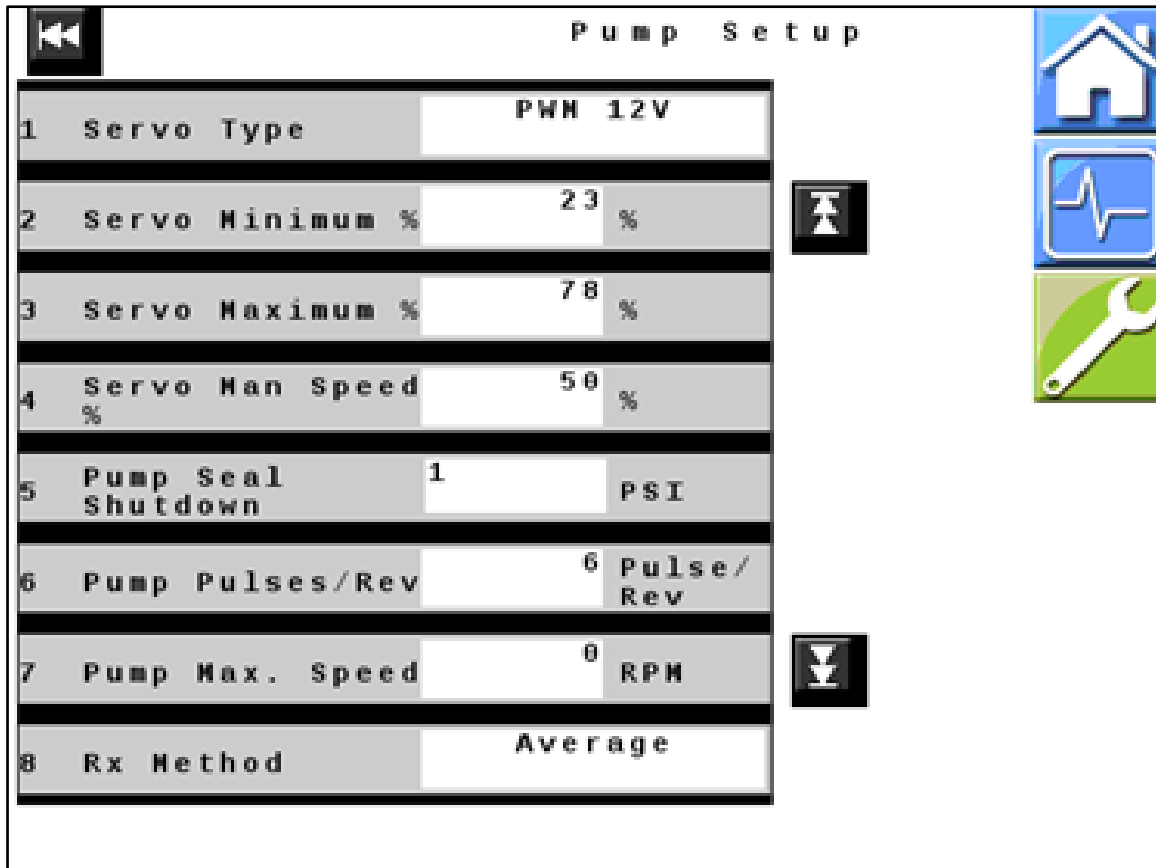

Figure 11 — Pump Setup Page 1
21. *Figure 11:* Verify that all values displayed on your unit match those shown here. Change values if necessary.